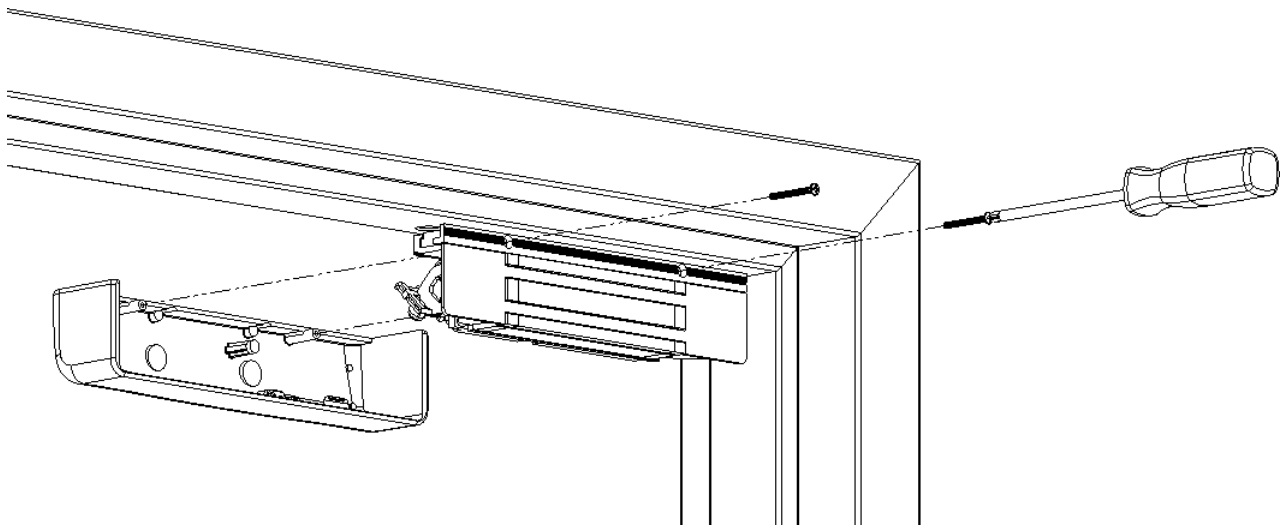

Figure 44. Installing the Lock Cover
- After calibration is complete and PIR is verified and adjusted (if necessary), RE-INSTALL the lock cover over the lock chassis and SECURE using the two (2) phillips screws (see Figure 44, “Installing the Lock Cover”).